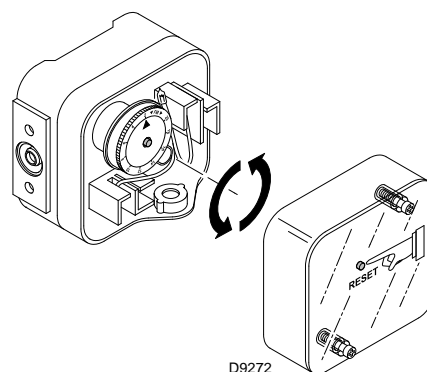

Fig. 34
- Adjust the maximum gas pressure switch (Fig. 34) to the end of the scale.
Adjust the maximum gas pressure switch (Fig. 34) after having performed all other burner adjustments with the maximum gas pressure switch set to the end of the scale.